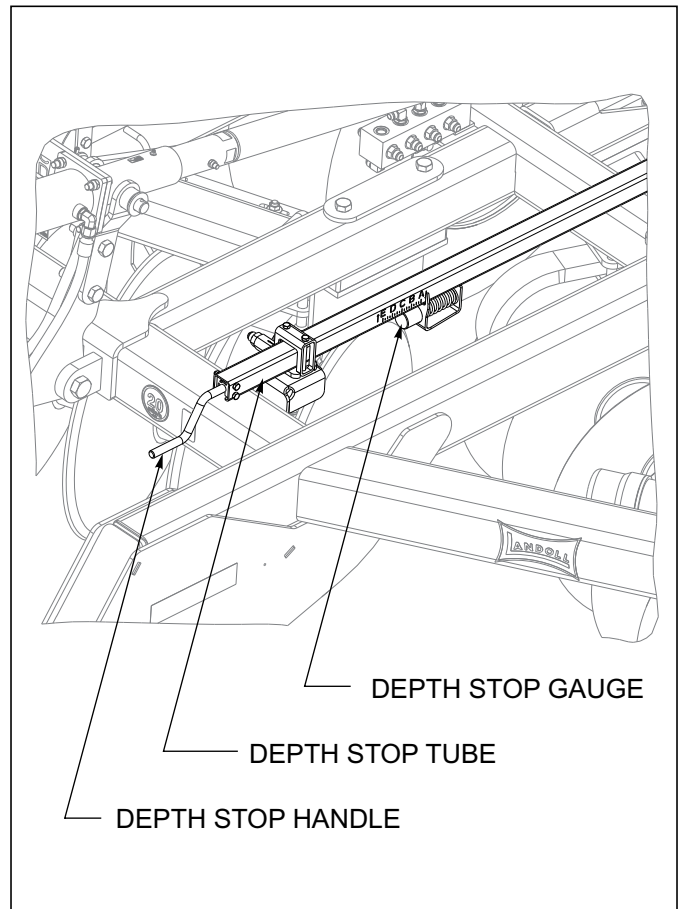

Figure 4-16: Depth Stop Adjustment (Manual)
1. Adjust the depth stop by turning the handle in (clockwise) to increase operating depth **(See Figure 4-16.)** Turn the handle out (counter-clockwise) to decrease operating depth. One turn will equal approximately 3/16 adjustment in depth.